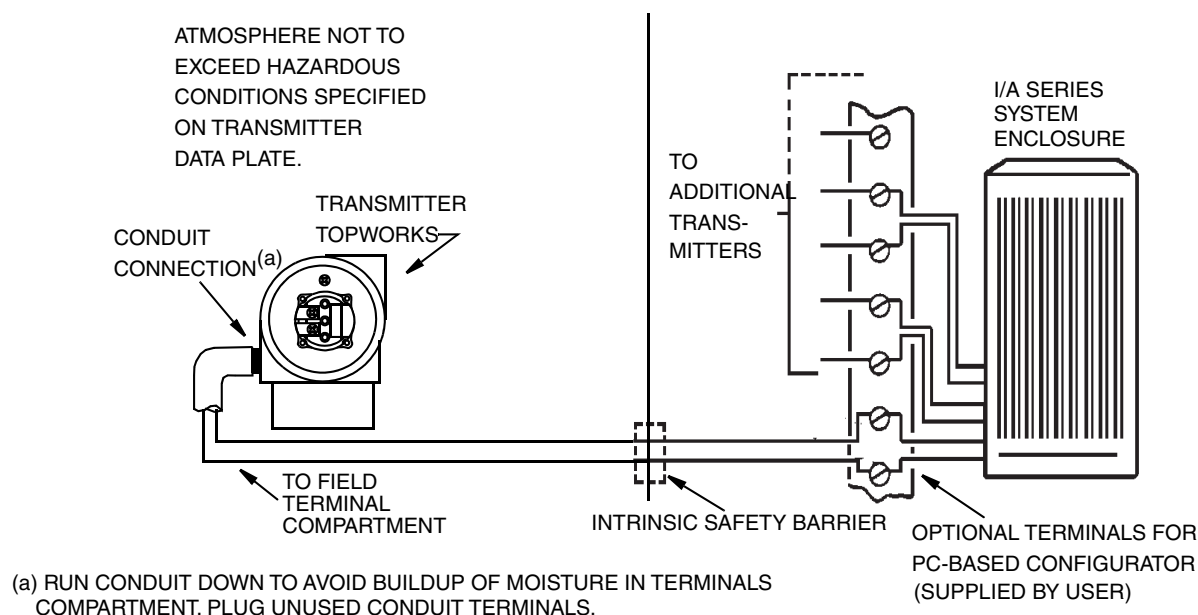

Figure 15. Typical Transmitter Wiring to an I/A Series System
2. Run signal wires (0.50 mm² or 20 AWG, typical) through one of the transmitter conduit connections as shown in Figure 15. Use twisted pair to protect the digital output and/or remote communications from electrical noise. Screened (shielded) cable may be required in some locations.